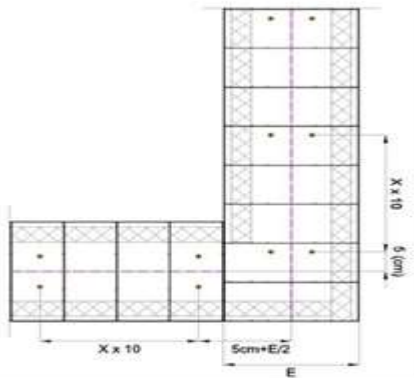

Fig. 47
v. Starter bars (see Figs. 47 to 48)